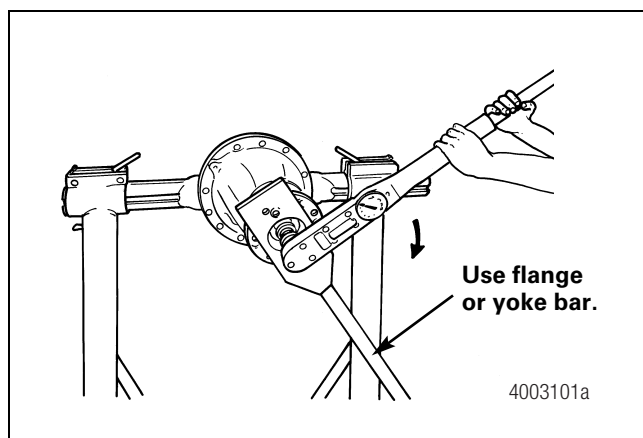

Figure 4.34
4. Place a flange or yoke bar into position. Tighten the pinion shaft nut to 885-1032 lb-ft (1200-1400 N•m). Figure 4.34.